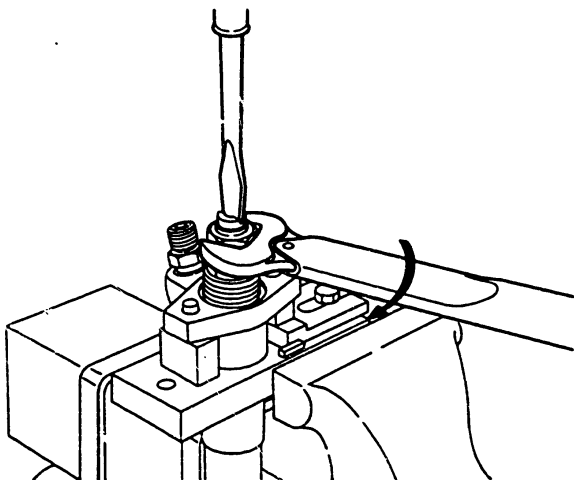

**Fig. 35 Second nozzle opening pressure adjustment**
2. Set the second nozzle opening pressure to the adjusted value using the nozzle tester. (Fig. 35). After setting the pressure, secure the locknut (14).